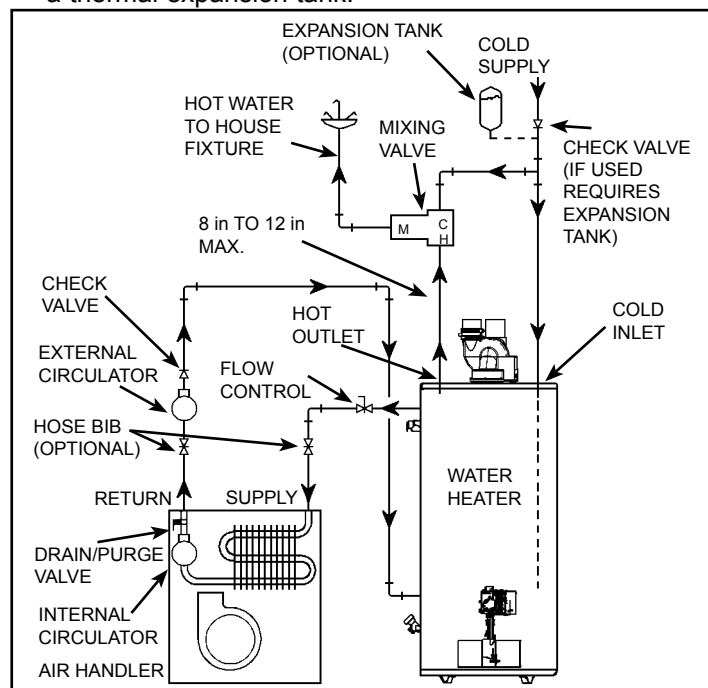

Figure 42
8. "Combo" Heating Systems require higher water temperatures than other applications. When the system is used to supply water for Combo Heating applications, a means, such as mixing valve, must be installed to temper the water in order to reduce scald hazard potential (see Figures 42 & 43).
- A. A fan coil/air handler (Figure 42).